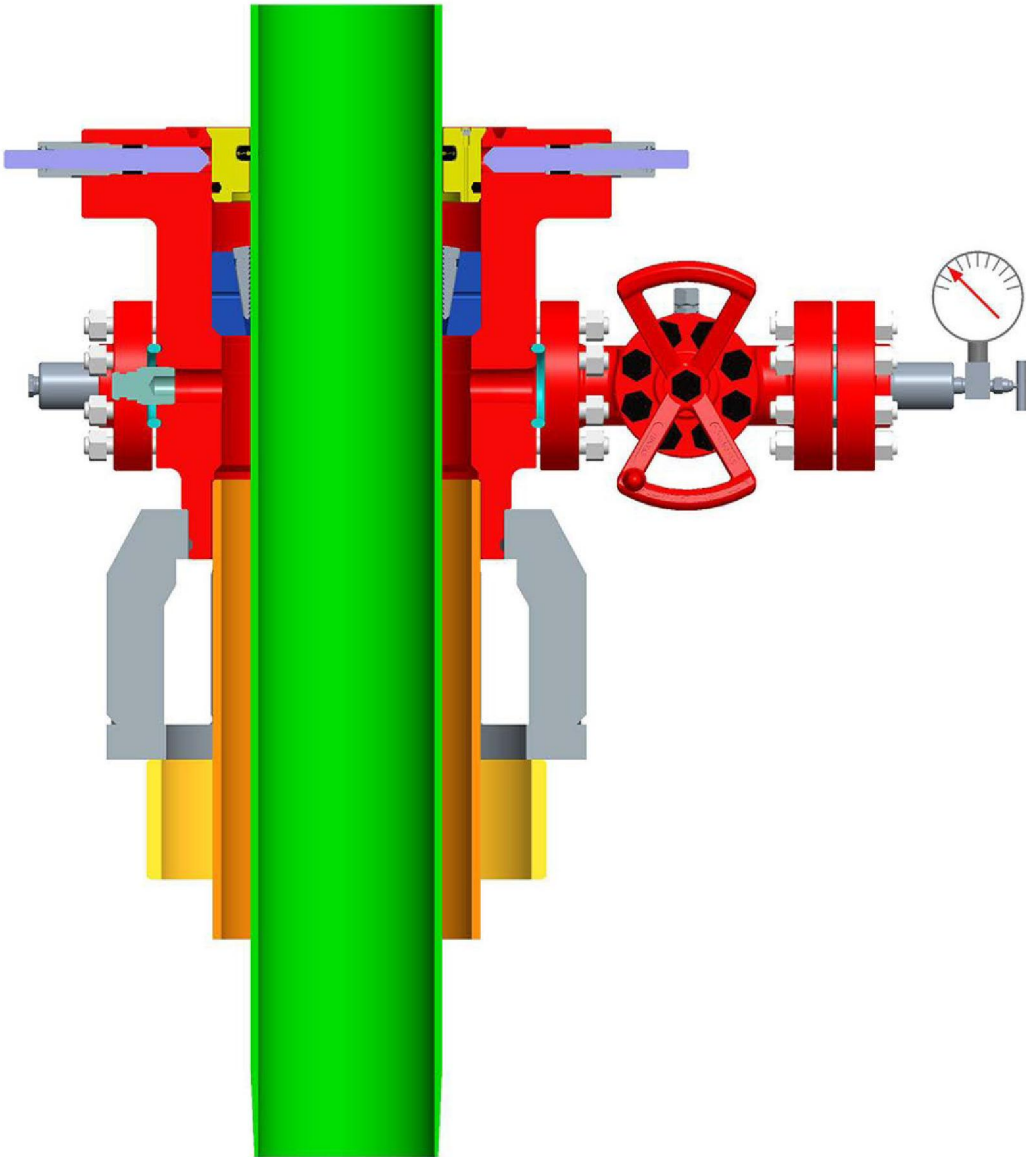

Figure 23
1. The CC-21-L primary packoff should be installed after the casing hanger is set and the casing stub is cut (see Figure 23).